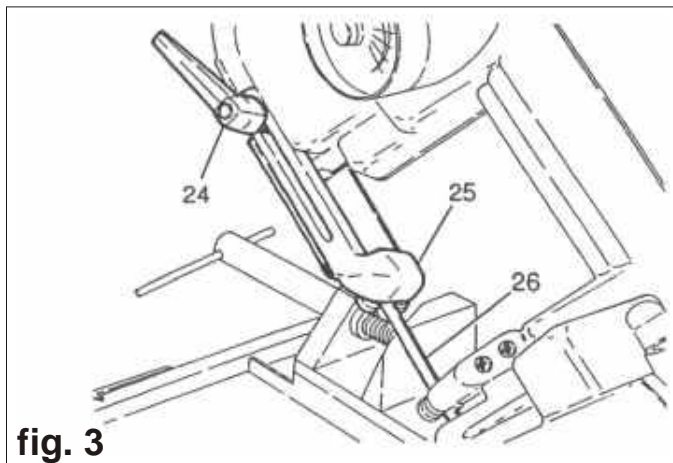

fig. 3
5.3 Adjusting the Blade Guide (fig.3)
- Loosen the lever (24).
- Slide the blade guide (25) which also acts as a protection until the saw (26) is as covered as possible, based on the size of the part to be cut.